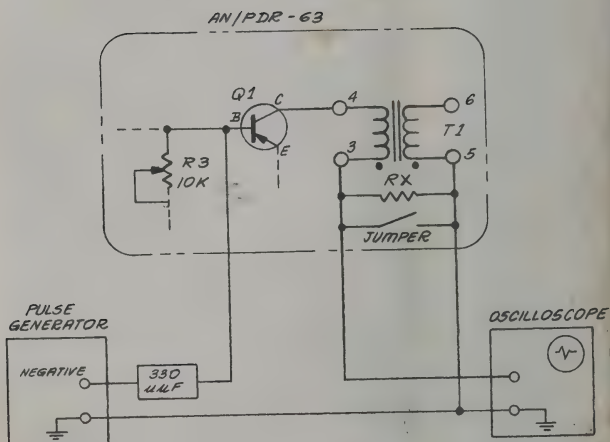
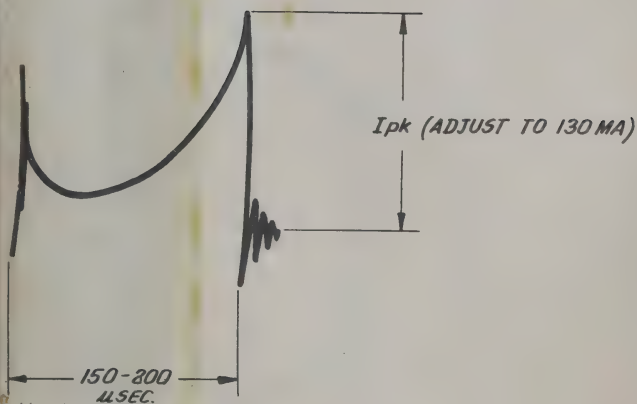

Figure 5-8. Test Set-up for Adjustment of 1A1R3
Figure 5-9. Transistor 1A1Q1 Collector
- (1) Open unit as in paragraph 5-3a.
- (2) Unsolder one end of shorting jumper across Jx and Tack solder 1 ohm across Rx (Figure 5-8).
- (3) Connect the test equipment as shown in Figure 5-8. Set the Pulse Generator to zero or minimum amplitude at a frequency of 60 pps. Set the Oscilloscope for 50 mv/cm vertical sensitivity and 50 microsecond/cm horizontal sweep.
- (4) Turn the Range Switch to 1000 rad/hr.
- (5) Starting from zero, slowly increase the generator pulse amplitude until the radiac meter goes upscale. The meter should indicate between 100 and 200 rad/hr.
(6) The waveform on the oscilloscope should be as shown in Figure 5-9. If not, adjust 1A1R3 for peak current of 130 ma (130 mv on the scope).
(7) Turn the Range Switch to OFF remove Rx and resolder jumper Jx.
(8) Reassemble unit.
(9) Source Calibration - Using an AN/UDM-1 or 1A or any equivalent calibrator of suitable strength to produce 100 r/hr at one meter, align the high range unit such that the long axis of the ion chamber is at right angles to the beam of radiation (meter up and range switch knob side toward source).